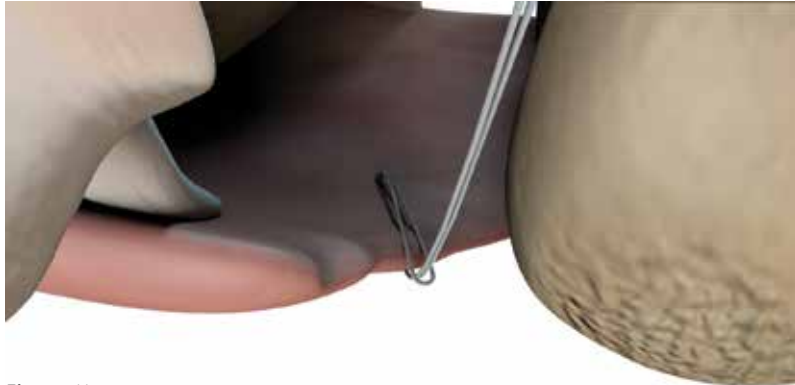

Figure 11
10. Pass the free ends of the suture through the loop to create a double girth stitch (Figure 11).